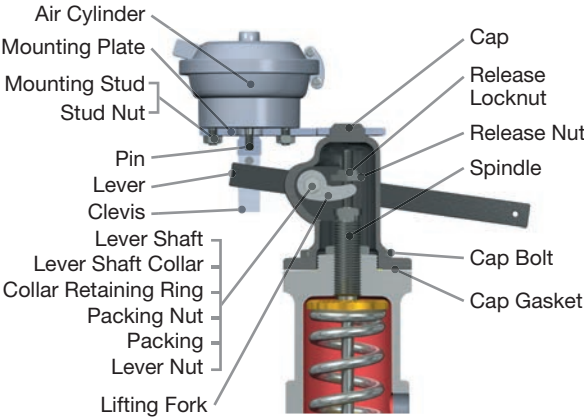

Figure 44: Air-Operated Packed Lever
The air-operated lifting device is designed to fully open the valve with 75% of set pressure under the valve disc in compliance with ASME Section XIII (UV). For certain applications, the air operator may be designed to fully open the valve with no pressure at the valve inlet. An air-operated device can be operated from a remote point and can be used as a "drop out" valve. (A typical design is shown in Figure 44, and can be purchased from Baker Hughes.)